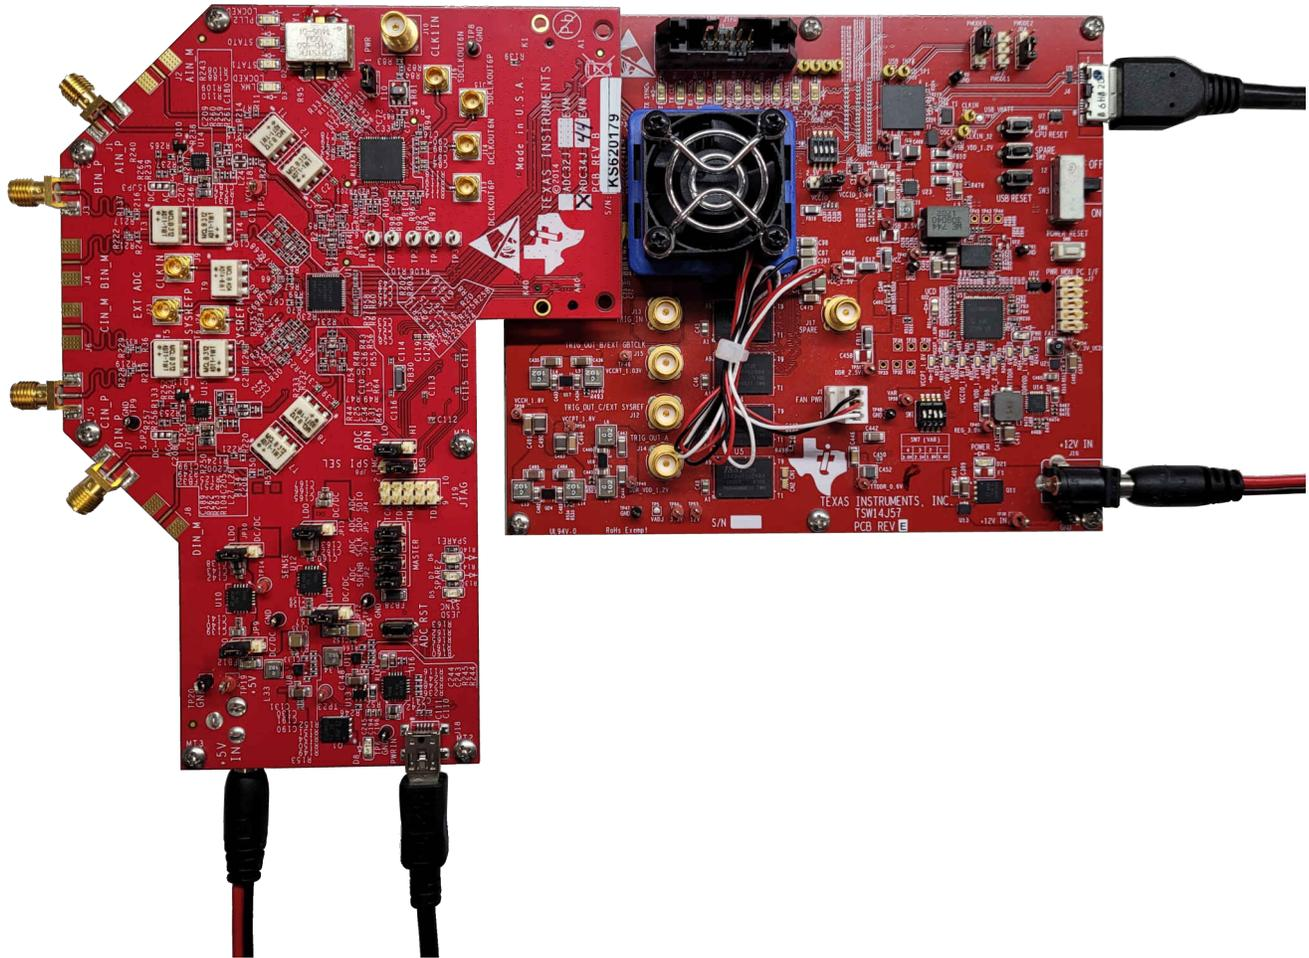

Figure 7-2. TSW14J57 EVM connected to an ADC34J45 EVM
- The TSW14J57 EVM connected to an ADC34J45 EVM is shown in Figure 7-2